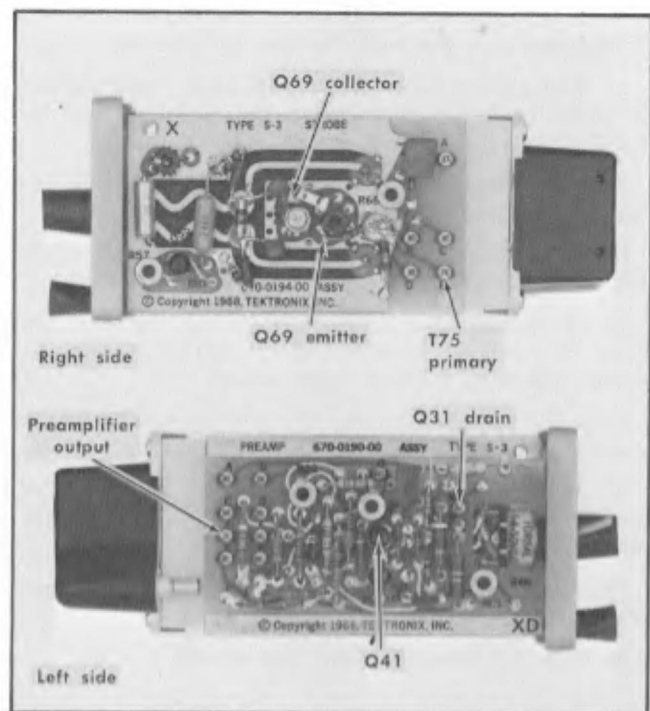
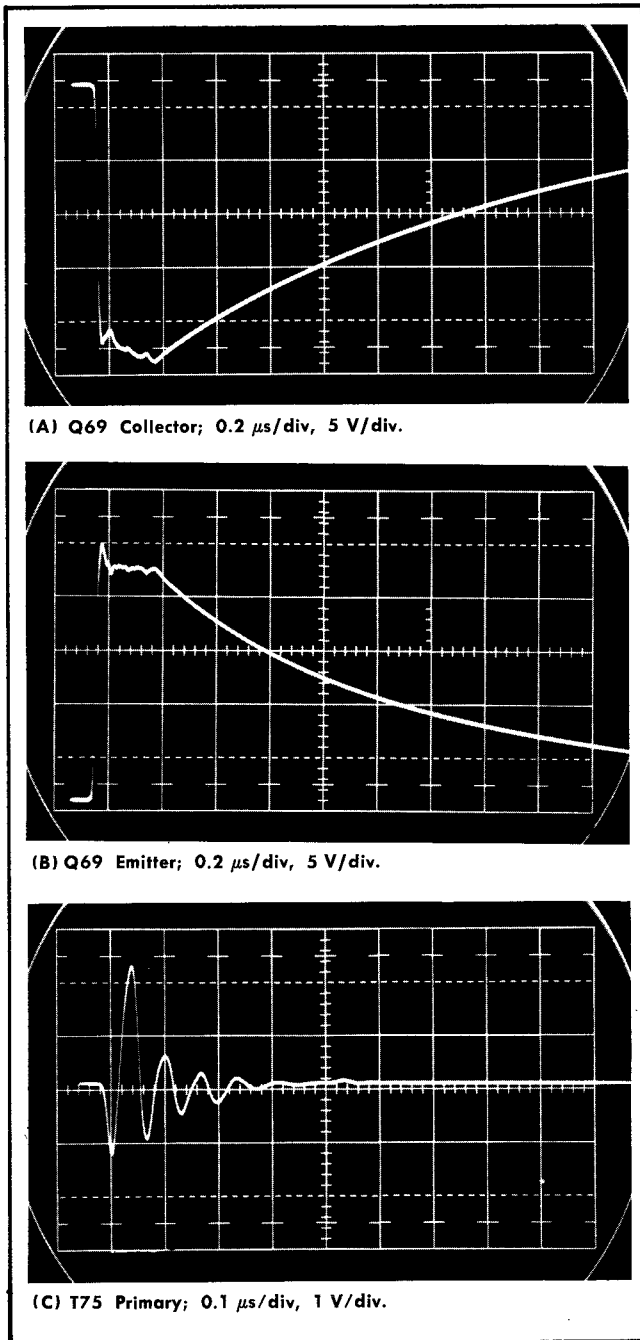

Fig. 5-2. Test point locations for step 2.
Fig. 5-3. Checking Avalanche drive and output.
d. Use the test oscilloscope with $1\times$ Probe, to check for proper operation of Q69. The probe connections are shown in Fig. 5-2, and the general nature of the signals is shown in Fig. 5-3. Fig. 5-3A and B show the general amplitude for Q69 collector and emitter signals. Fig. 5-3C shows the typical drive signals at T75 primary (square terminal E of Strobe board) while the head is on the extender cable.
the displayed noise, so it is best to have several transistors of this type on hand and grade them for low noise using step 10). If all signals of Fig. 5-3 are present, check the Pre-amplifier output (square terminal E of Preamp board). If there is no signal at the Pre-amplifier output, check the sampling diodes and Q31 in the following manner.